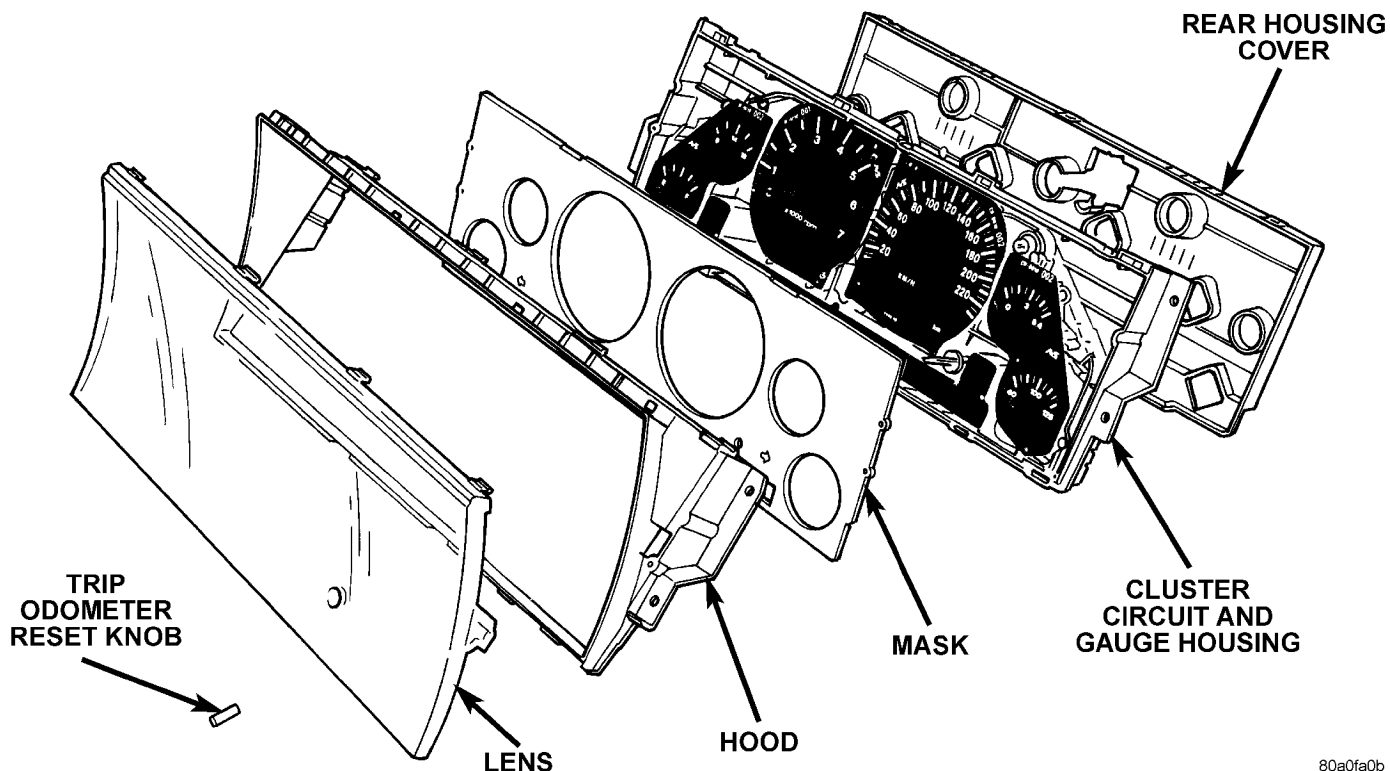

Fig. 6 Instrument Cluster Components
(1) Remove the cluster bezel as described in this group.
(2) Remove the instrument cluster as described in this group.
(3) Remove the trip odometer reset knob by pulling it off of the switch stem (Fig. 6).
(4) Depress the snap clips that secure the cluster lens to the cluster hood and gently pull the lens away from the hood.